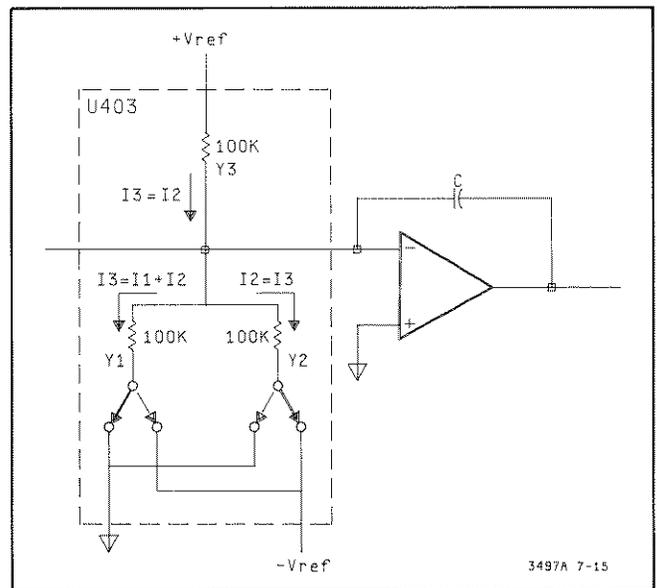

Figure 7-15. Slope S+0 and S-0 Generation
7-166. Slope S + 0 and S-0 Generation. Refer to Figure 7-15. Note that one side of a 100K ohm resistor (Y1 path) is connected to ground and the other side is connected to the summing node. Since the 100K ohm resistor from +Vref (Y3 path) and the 100K ohm resistor from -Vref (Y2 path) are also connected to the summing node, no current flows from the integrator capacitor (C). This is because the resistance value of path Y2 and Y3 is the same and makes the current value of paths Y2 and Y3 the same (but opposite polarity). This is true for both slopes S + 0 and S-0. The only difference is that paths Y1 and Y2 are switched when the slopes are switched (Y1 to ground and Y2 to -Vref, or Y2 to ground and Y1 to -Vref).
used to develop the S-4, S + 4, etc., currents, and the integrator circuitry. While referring to Figure 7-15, note that +Vref is connected to one side of a 100K ohm resistor and -Vref to one side of another 100K ohm resistor. The other ends of the resistors are connected to each other and also to the integrator. If the absolute values of the +Vref and -Vref voltages are exactly equal and the resistors are also equal, the current going into the integrator is exactly zero. Since the resistors and reference supplies are not exactly equal (they are, however, very stable), a small offset current is generated. This current plus the offset developed by the integrator itself, develops an offset voltage at the output of the integrator. This offset voltage can cause inaccuracies. The A/D Autozero circuitry compensate for that offset voltage.